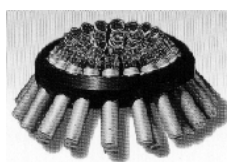

figure 2
5.2.2. For fixed angle rotors with carriers, all carriers must be inserted into the rotor before starting the run. This holds true even when partial loads are being processed (see fig. 2).